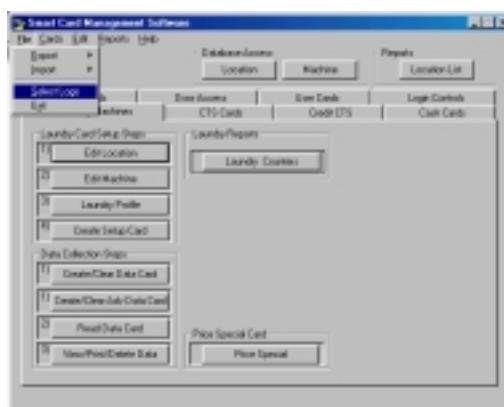

Figure 14.1 Selecting a Logo for Reports
1. From the File drop-down menu click Select Logo (Figure 14.1).